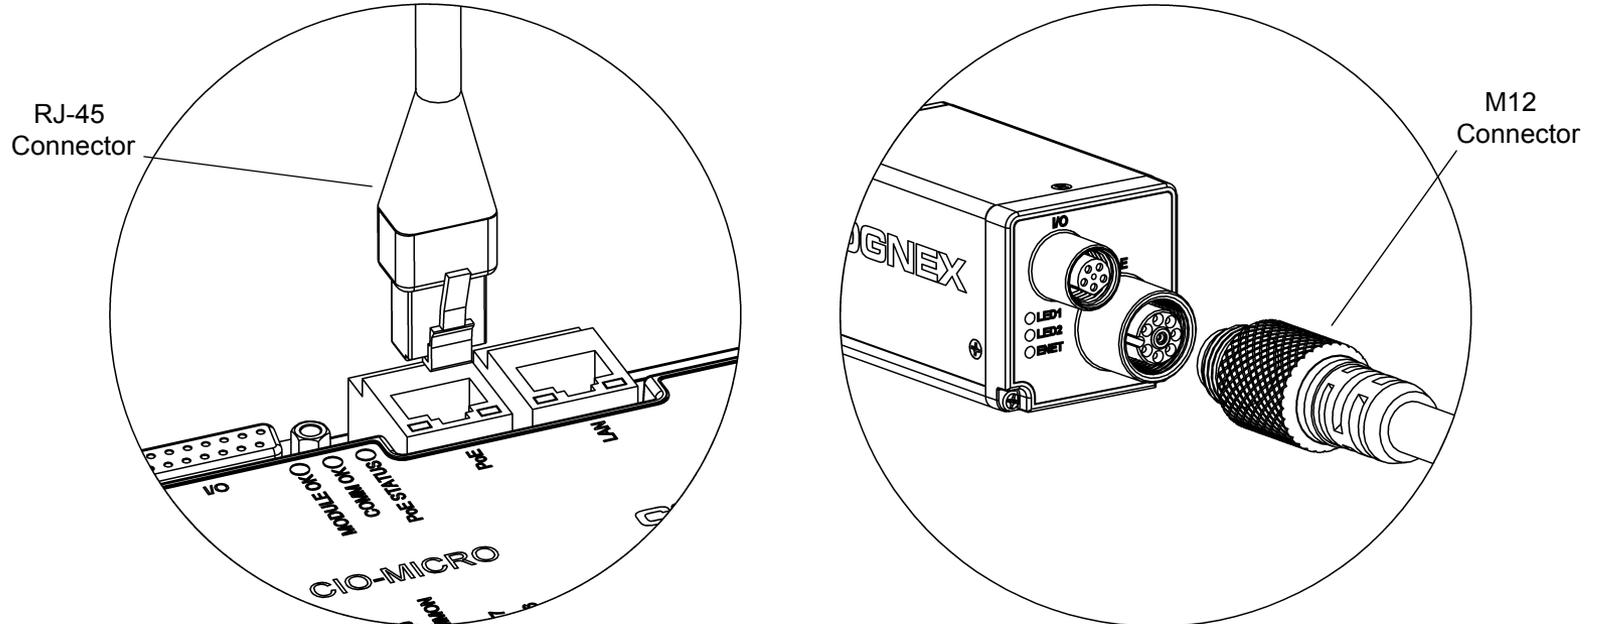

Figure 2-4: Connecting the Ethernet Cable to the I/O Module and Micro Vision System
- a. Provide Ethernet and power to the Micro vision system by plugging the Ethernet cable's RJ-45 connector into the I/O module's PoE RJ-45 port, as shown in Figure 2-4, and connecting the Ethernet cable's keyed M12 connector into the In-Sight Micro vision system's PoE port, as shown in Figure 2-4.